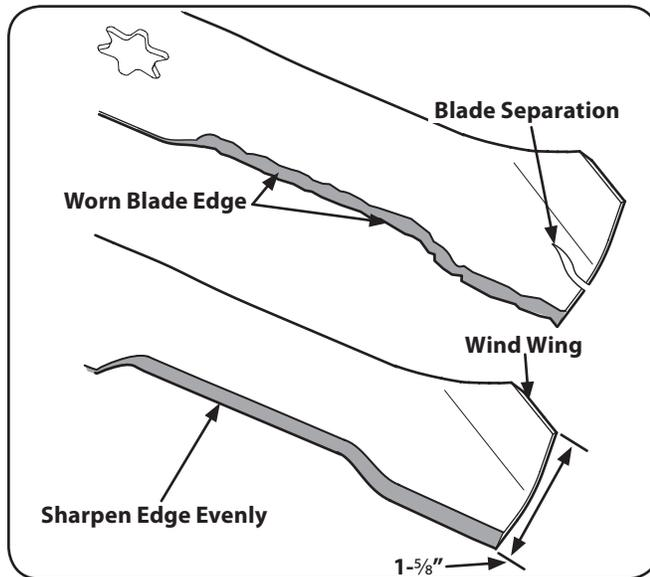

Figure 7-2
**NOTE:** If the cutting edge of the blade has already been sharpened to within  $1-\frac{5}{8}$ " from the edge, or if any metal separation is present, replace the blades with new ones. See Fig. 7-2.